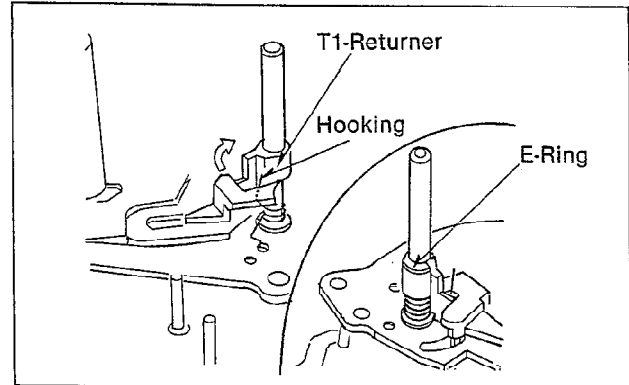

Fig. M23
- (5) Make sure of up side of T1-Returner, after that install the T1-Returner. Then insert hooked end(long side) of T1-Returner Spring in the hole of T1-Returner. Then, turn the T1-Returner to clockwise. Finally, insert the E-ring as shown in Fig.M23.